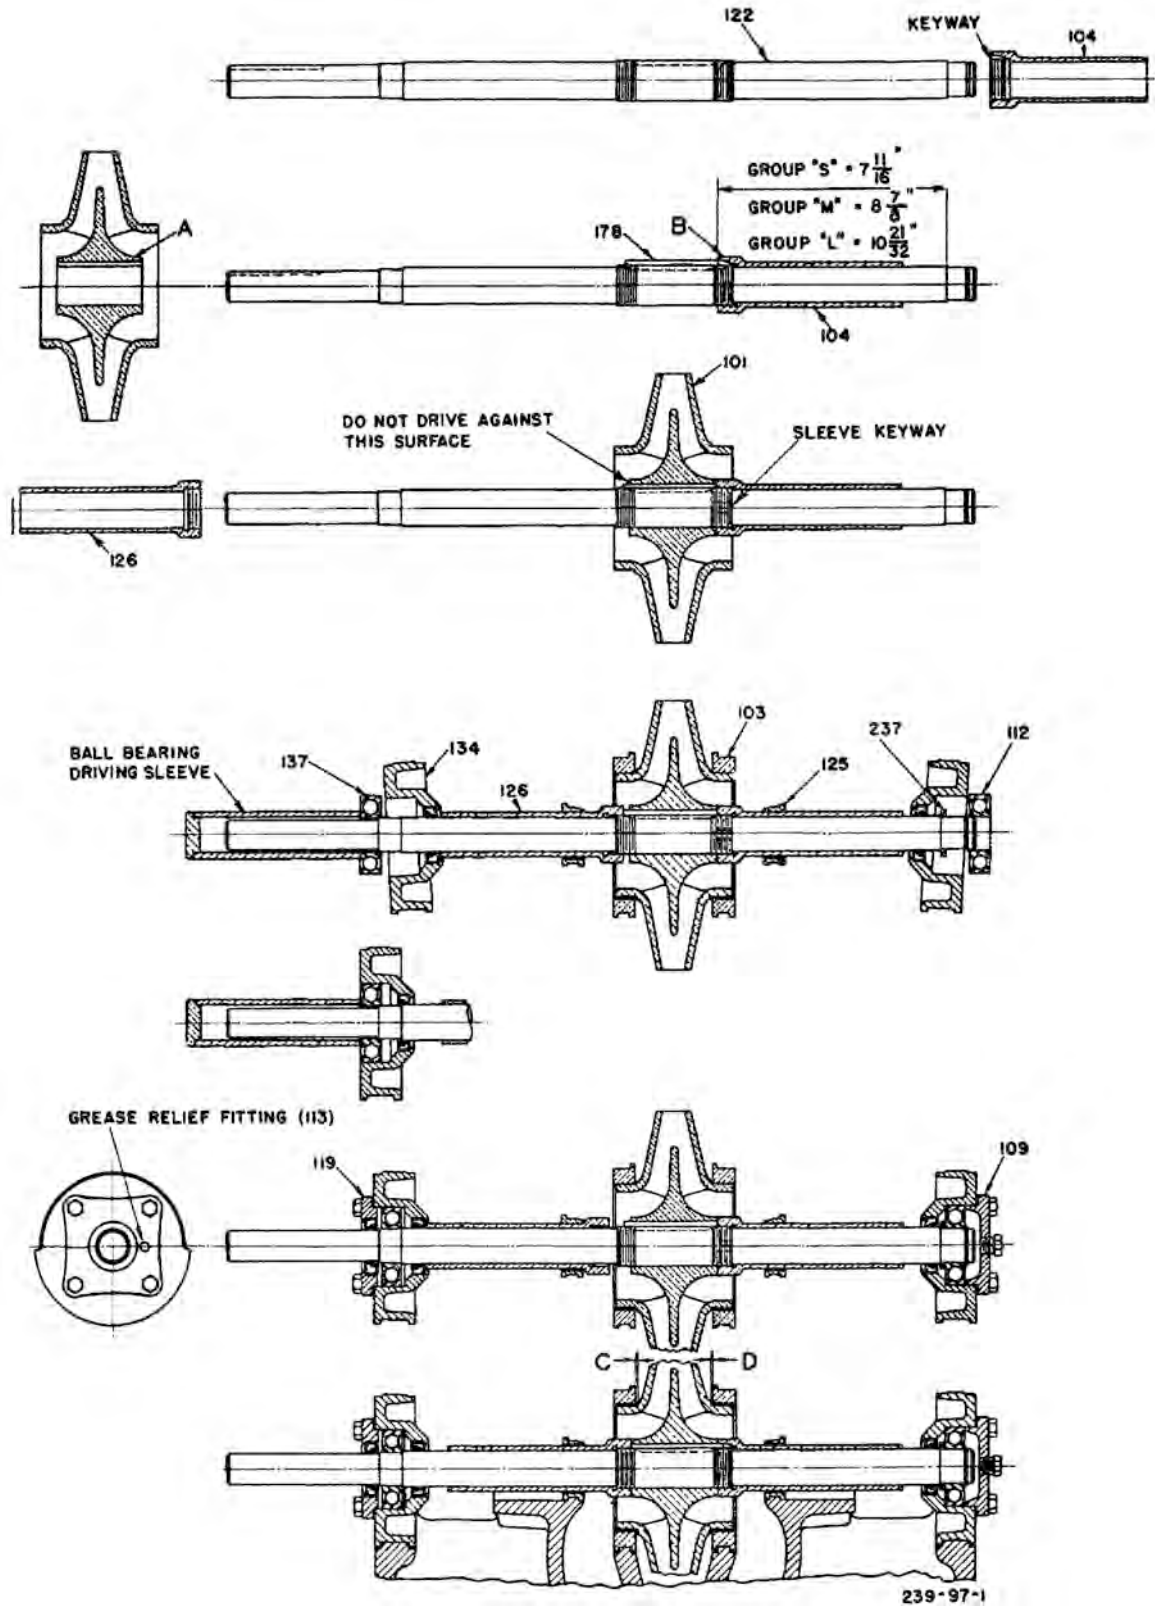
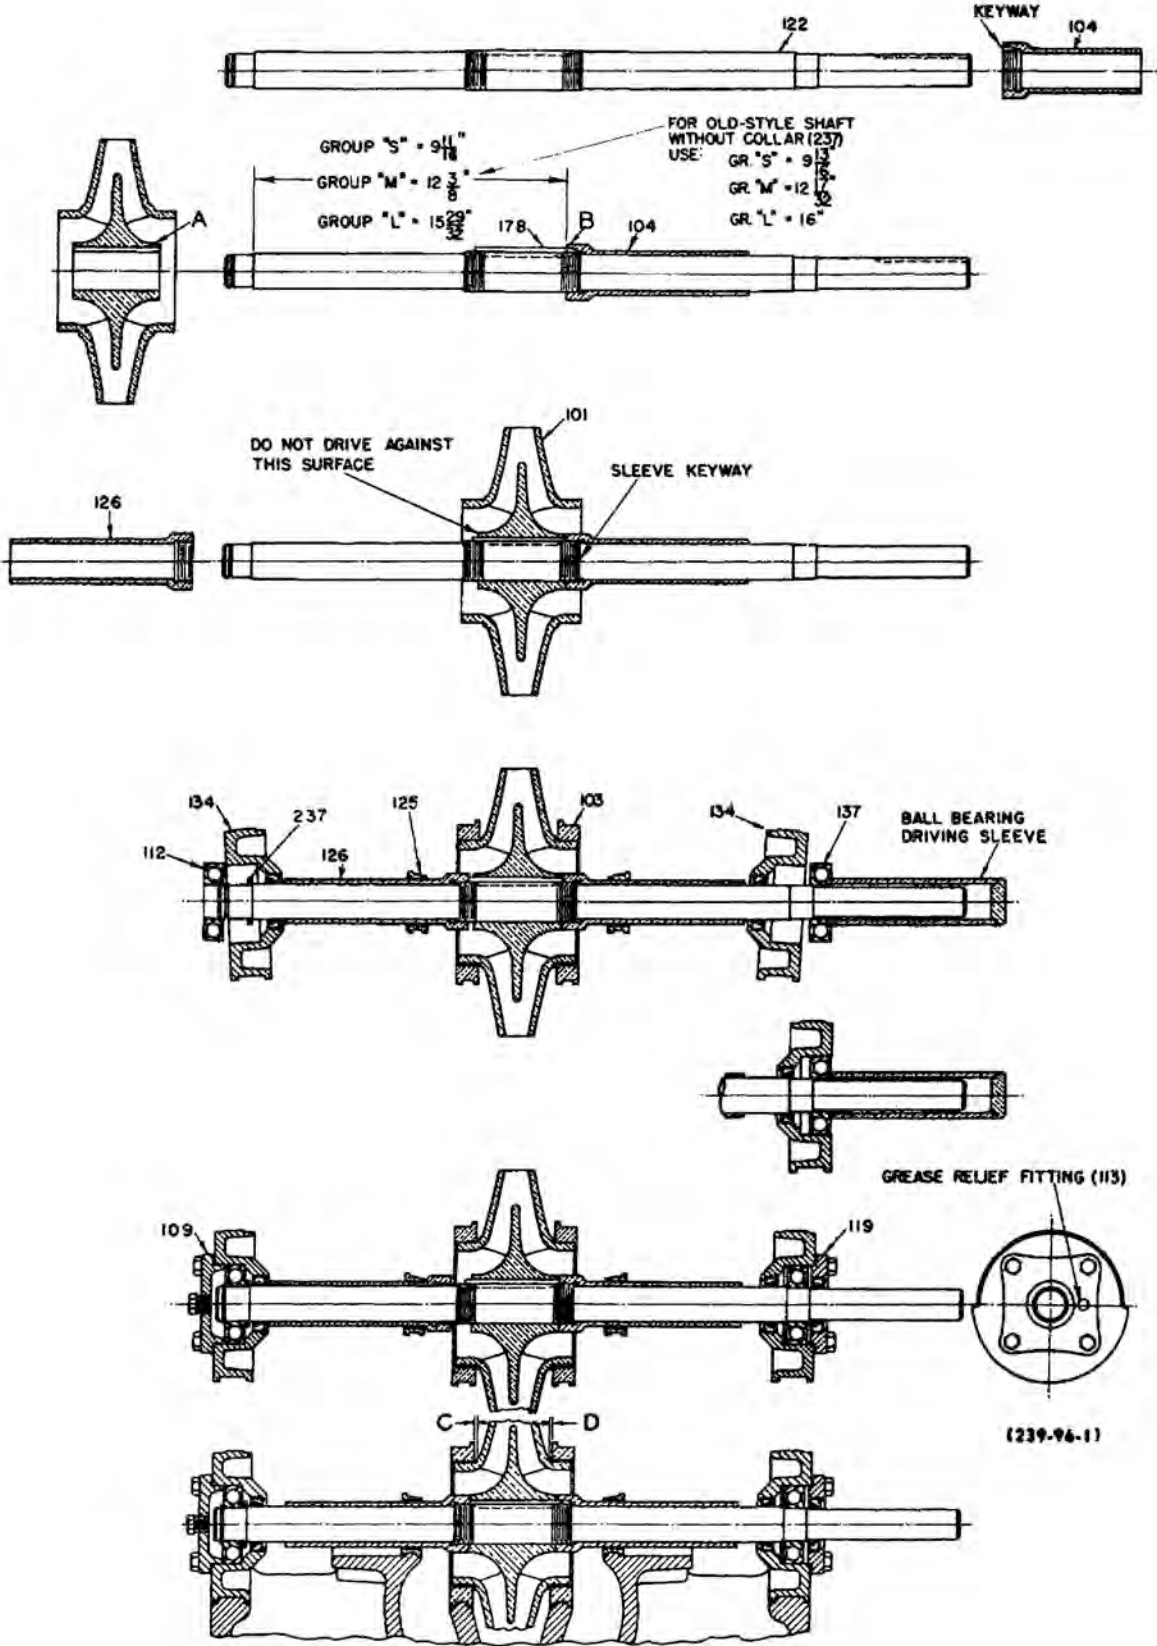

Figure 16: Left hand pump
Figure 17: Right hand pump
The following directions are for use when the pump is completely dismantled and it is desired to reassemble. Figure 16: Left hand pump on page 42 and Figure 17: Right hand pump on page 43 illustrate the steps described in the following. The basic instructions are for a Model 3405 pump. Where reassembly of the Model 3406 or 3416 pumps differ the necessary supplementary instructions are included.
3. Mark the location of the keyway on the outside of both the impeller hub and the locking sleeve (104) at points "A" and "B" in Figure 16: Left hand pump on page 42 and Figure 17: Right hand pump on page 43. These marks will be used later to indicate that the keyways are in line.
4. Assemble the shaft sleeve (104) that has a keyway in the threaded end but does not have spanner wrench holes. Turn sleeve in a clockwise direction on shaft until the dimension from the threaded end of the sleeve to the shaft shoulder at thrust bearing or outboard seat agrees with the dimension on Figure 17: Right hand pump on page 43 for right hand or Figure 16: Left hand pump on page 42 for left hand rotation.
For the Model 3416 substitute the following B dimensions for those shown on Figure 16: Left hand pump on page 42 and Figure 17: Right hand pump on page 43.
15. Place deflectors (123) on shaft. On the Model 3406 - Wipe a small amount of grease on oil seal lips (332B) and slide bearing housing covers (160) carefully over shaft and replace oil rings (114) on shaft against bearing housing covers (160).
17. Slide ball bearing collar (237) over thrust end of shaft (122) and push up against shaft shoulder.
18. The thrust and coupling end ball bearings are the same and can be installed on either end of shaft. Both bearings are installed in a like manner as follows: Apply a film of oil to the bearing seat on the shaft. Start bearing "square" and drive on about 1/8", keeping bearing square at all times. Use a driving sleeve as shown in Figure 16: Left hand pump on page 42 and Figure 17: Right hand pump on page 43. Note that the outside diameter of this sleeve should never be larger than the outside diameter of the inner race of bearing. Next slip the bearing housing over the ball bearing toward the end of the shaft to eliminate any possibility of binding between the outside of the bearing and the bearing housing bore. Now continue to drive the bearing solidly against the shaft shoulder.
20. Oil shaft extension and slide coupling end bearing end cover (119) with gasket (360) in place, being careful not to injure grease seal (332). Turn end cover so that the small oil cup is in line horizontally with center of shaft when the double lock of the bearing housing are in the lowermost position (see Figure 16: Left hand pump on page 42 and Figure 17: Right hand pump on page 43. This oil cup is used as a pressure relief for the bearing housing. It must be in the horizontal position to facilitate the correct filling of the grease chamber. (Note that the location of this relief fitting is shown at the top in the sectional assembly, Section 7.3 Sectional view on page 33, only to show construction details.) Bolt the bearing end cover securely in place.
After the element has been properly seated in the lower half casing, tap impeller along shaft until the shoulders on the impeller are in the center of the space between the two casing wearing rings (103). In other words, dimension "C" and "D" Figure 16: Left hand pump on page 42 and Figure 17: Right hand pump on page 43 will be equal.
3. Turn lower half casing 180° so that suction and discharge flanges are reversed from previous position or turn bedplate 180° and leave pump casing in original position. See Figure 17: Right hand pump on page 43, showing right and left hand pump.